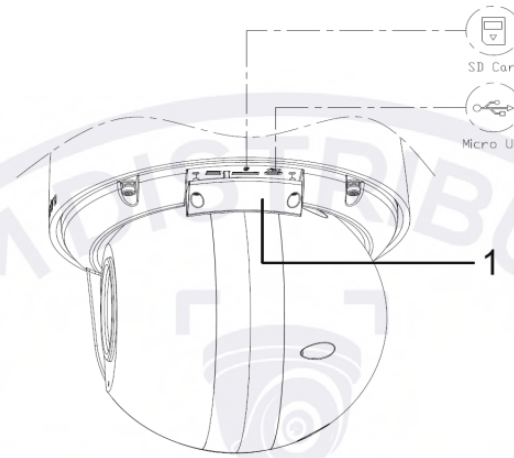

Figure 7
1. Remove the two screws located on the micro-SD card cover (1) (Figure 7).
3. Secure the two screws (1) (Figure 7) located on the micro-SD card cover.